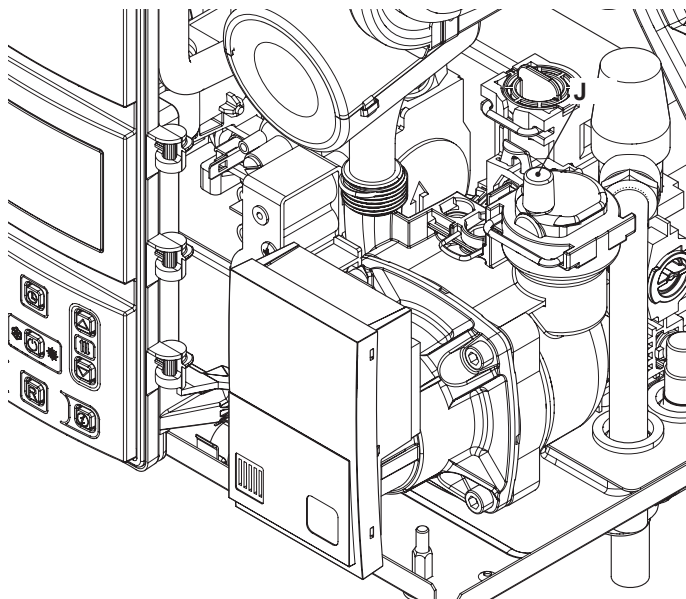

Figure 2.13
- 4 To make draining easier, lift the plug "J" of the automatic relief valve in Figure 2.13.